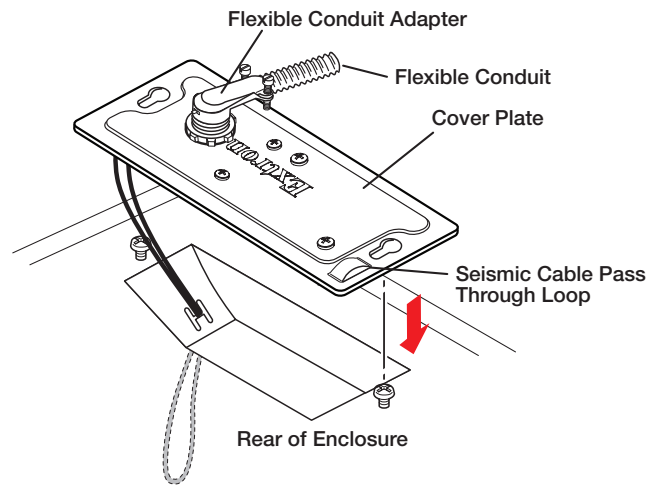

Figure 30. Routing the Cables through the Cover Plate Using a Flexible Conduit
- b. Insert the conduit into the cover plate opening using an appropriate conduit adapter, and secure the conduit to the plate as shown in figure 30.